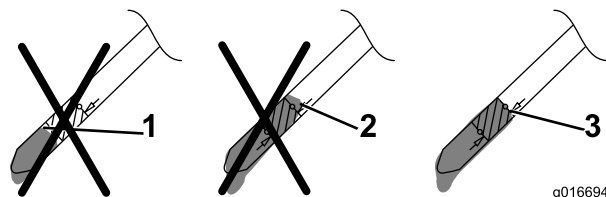

Figure 7
5. Remove the dipstick and read the oil level on the dipstick; refer to Figure 7.
- If the oil level is too low, add a small amount of oil **slowly** to the oil-fill tube, and then repeat steps 3 through 5 until the oil level is correct as shown in Figure 7.